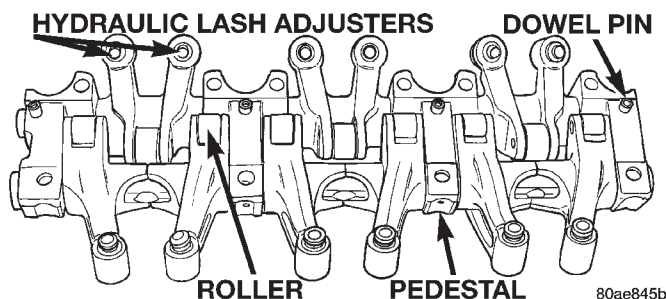

Fig. 57 Assemble Rocker Arms and Shaft
(2) Install dowel pins (Fig. 57). Dowel pins pass through the pedestal into the exhaust rocker shafts. Dowel pins should be pressed in until they bottom-out against the rocker shaft in the pedestal.